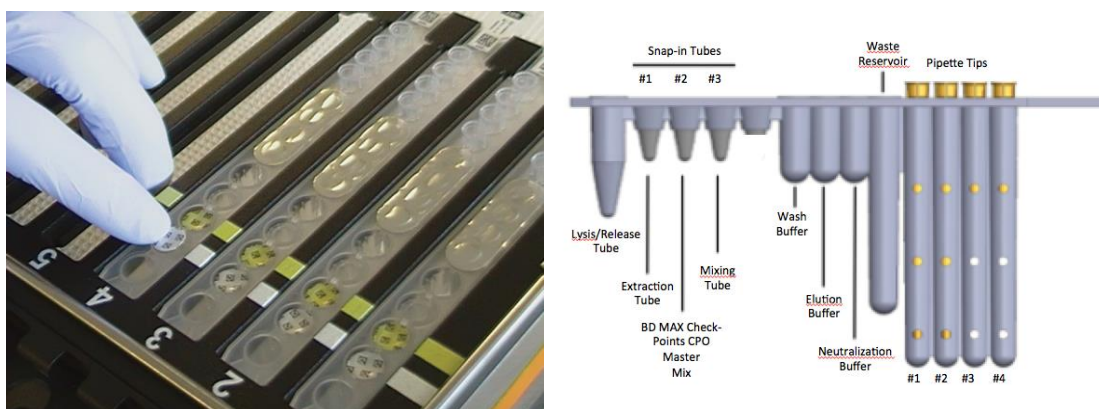

Figure 1: Snap BD MAX Check-Points CPO Extraction tubes and BD MAX Check-Points CPO Master Mix tubes into Unitized Reagent Strips
- Check reagent strips for proper liquid fills (ensure that the liquids are at the bottom of the tubes) (see Figure 1).
- Check reagent strips to ensure that all pipette tips are present (see Figure 1).
5. For each specimen to be tested, place one (1) Unitized Reagent Strip into the BD MAX System Rack, starting with Position 1 of Rack A.
6. Snap one (1) Extraction Tube (white foil) into each Unitized Reagent Strip in Position 1 as shown in Figure 1.
7. Snap one (1) Master Mix Tube (green foil) into each Unitized Reagent Strip in Position 2 as shown in Figure 1.